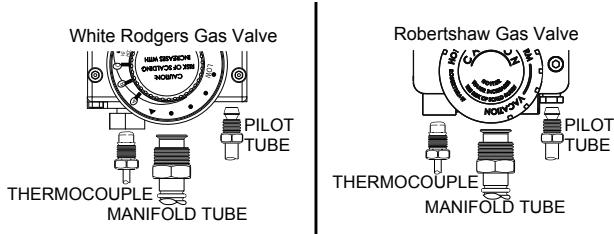

Figure 2
- Remove the outer door from around the burner tubing at the base of the water heater. Disconnect the three connections from the bottom of the gas control valve/thermostat, being careful to note their location, see Figure 2.